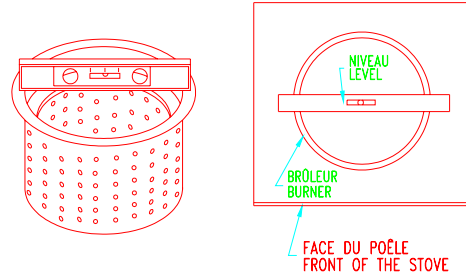

Figure 9A: LEVELLING THE BURNER
- Put the level in the middle of the burner parallel to the door. (Figure 9A). Screw or unscrew the adjustable legs to level the burner with a 7/16" key (10 mm).